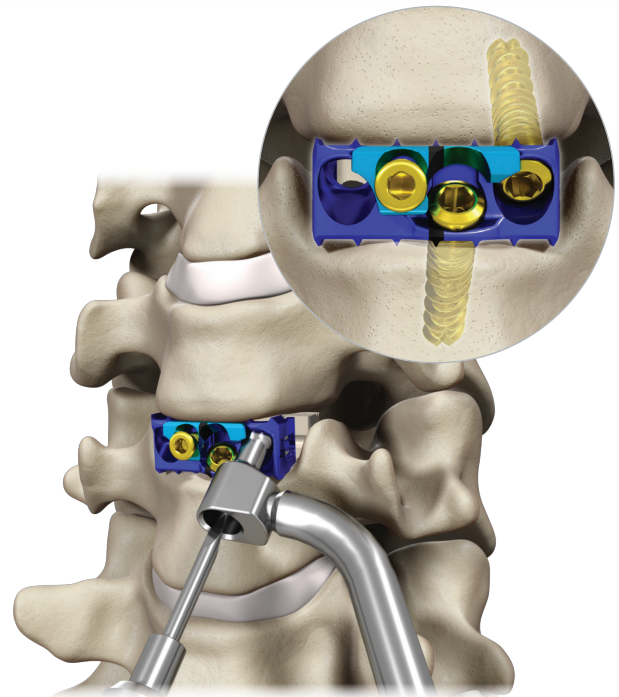

Figure 82
- Repeat steps 3 and 4 for the lateral screws, using the same “drill and fill” technique (Figure 82).